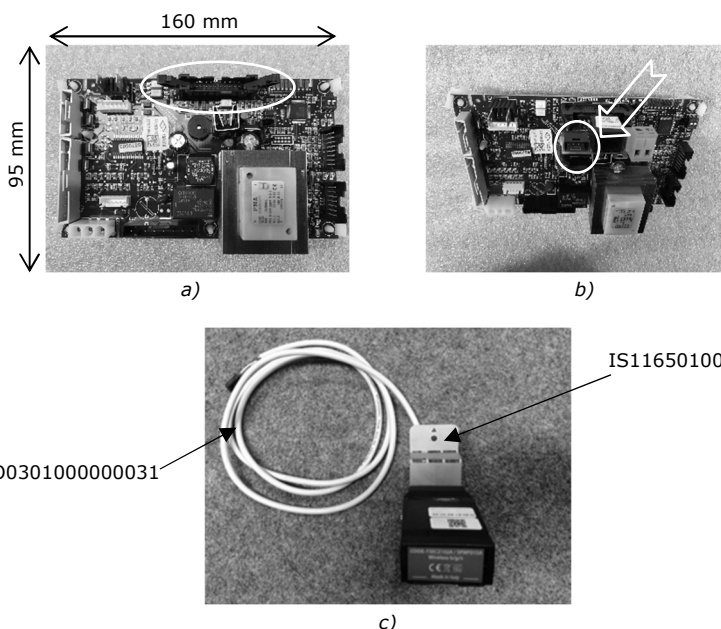
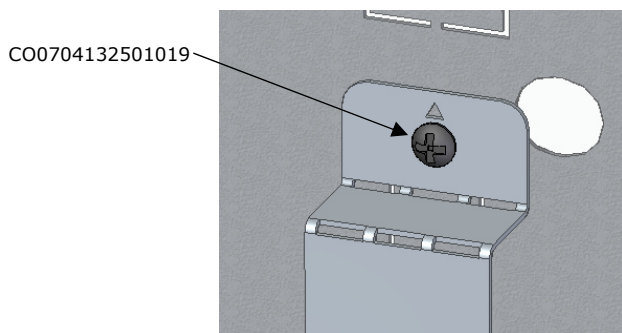

Figure 6 - Wi-Fi module installation
Figure 8 – Triangular mark of the module
- Fasten the Wi-Fi module to the hole corresponding to the micro joint tear (when necessary); using the two screws DIN 7981 4,2x9,5 (Figure 8), **with special care to place the Wi-Fi mark upwards (Figure 3 and Figure 6).**
• Attach the Wi-Fi module holder in the hole corresponding to the slot in the micro-joint (when necessary); using the two DIN 7981 4,2x9,5 screws (Figure 8), **taking special care to place the Wi-Fi symbol of the module facing up (Figure 3 and Figure 6).**